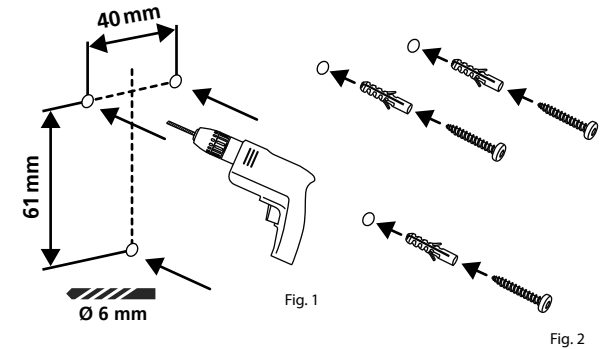

Fig. 2
- 2 Insert the dowels supplied into the holes and screw in the screws provided (Fig. 2).